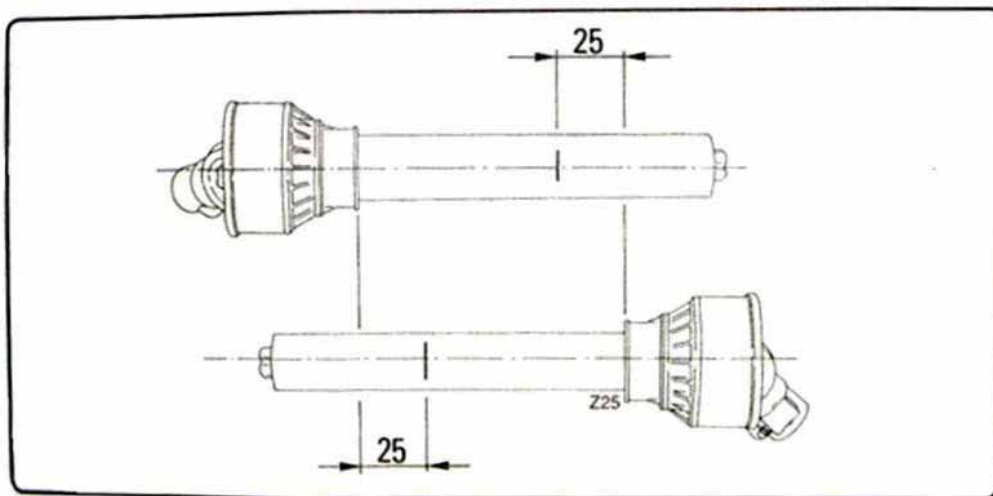

fig. 4.3.1
- Use a marker to indicate the location where the two halves must be shortened 25 mm from the beginning of each half as shown in Fig. 4.3.1.